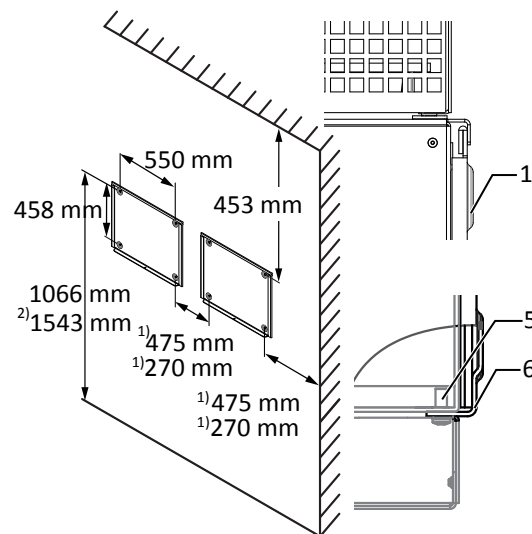

Fig. 14: Wall mounting
- Minimum clearances to be observed during installation: [See figure 14] [▶ Page 18]
2 Fit the device onto the upper mount by means of the mounting bracket. Fit the device onto the lower mounting bracket in full so that the device sits flush with its rear side on the mount. ([See figure 14] [▶ Page 18]).